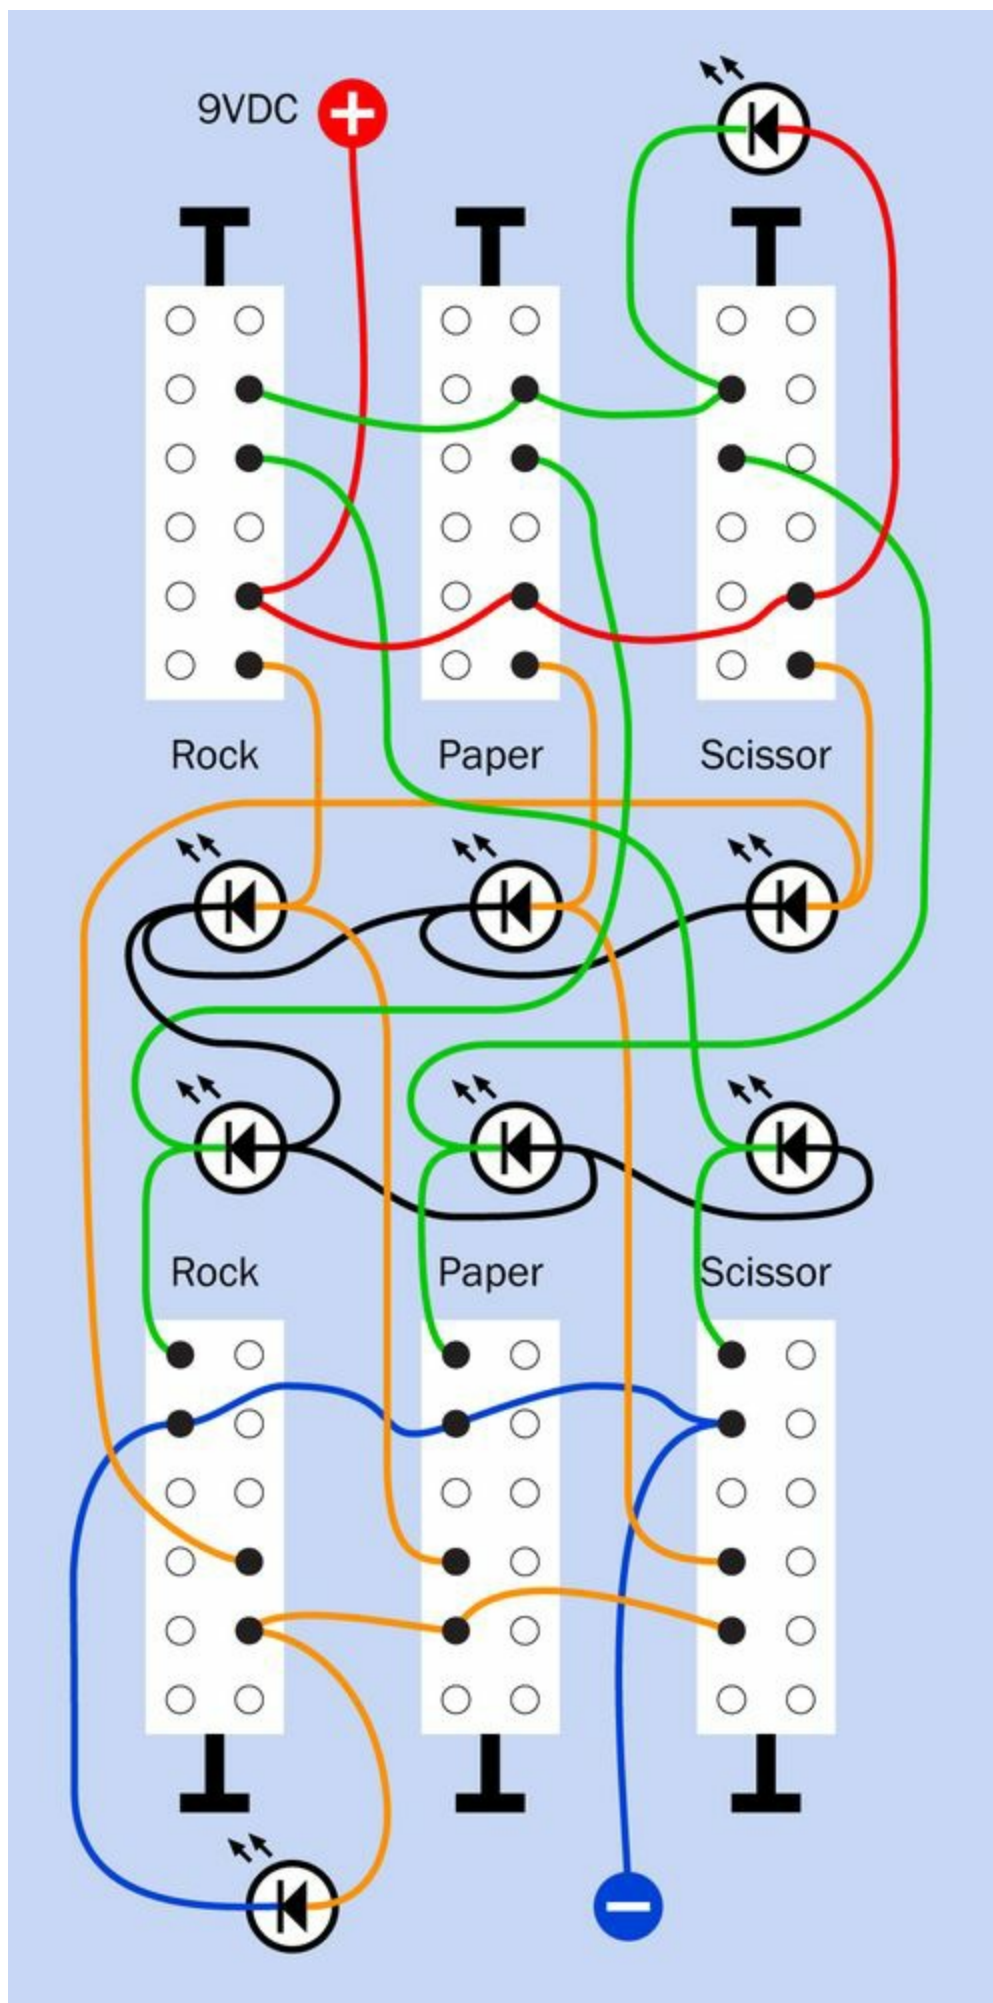

Figure 18-12. Wiring six 4PDT slider switches for the simpler version of the Rock, Paper, Scissors game, which does not
**Figure 18-12** shows how to hook up the switches to make the Rock, Paper, Scissors game. Pins that have soldered connections with wires are shown solid black, while unused pins are white. A few of the wires have been moved around relative to the schematic shown previously, to minimize crossovers and avoid any locations where three wires meet on a pin. Such locations are more difficult to solder.